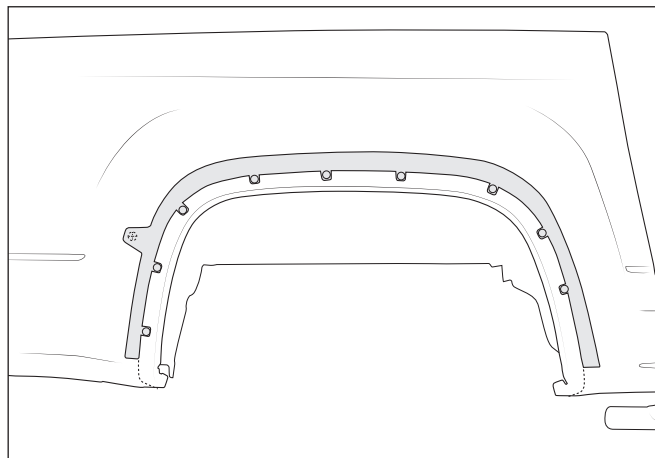

Figure 16
3. Adhere templates to vehicle with tape or the plastic clips from the factory flare, align the factory holes with the templates (fig. 16).